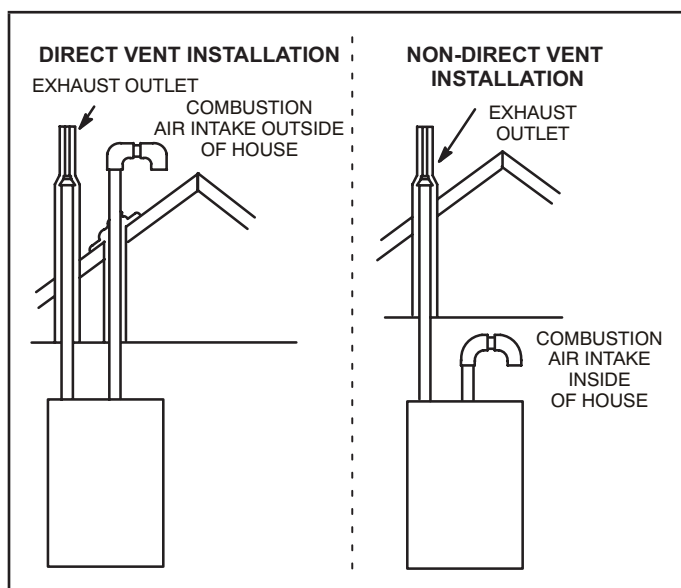
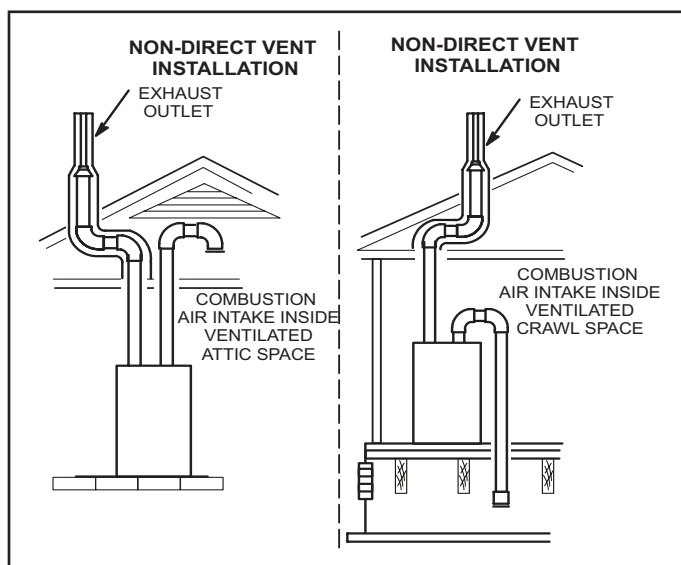

Figure 1
Figure 2
**NOTE** - In Direct Vent installations, combustion air is taken from outdoors and flue gases are discharged outdoors. In Non-Direct Vent installations, combustion air is taken from indoors or ventilated attic or crawlspace and flue gases are discharged outdoors. See Figure 1 and Figure 2 for applications involving roof termination.